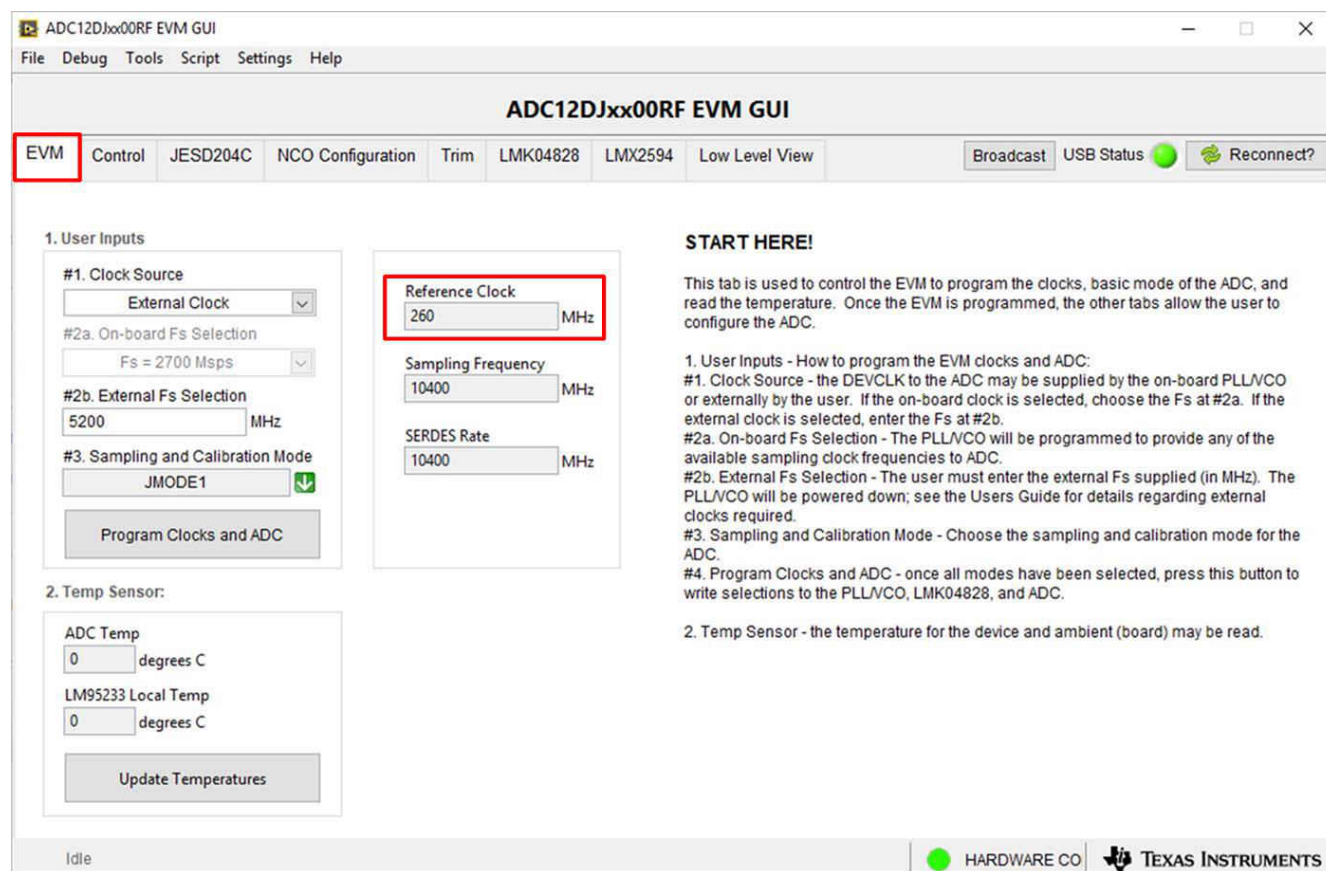
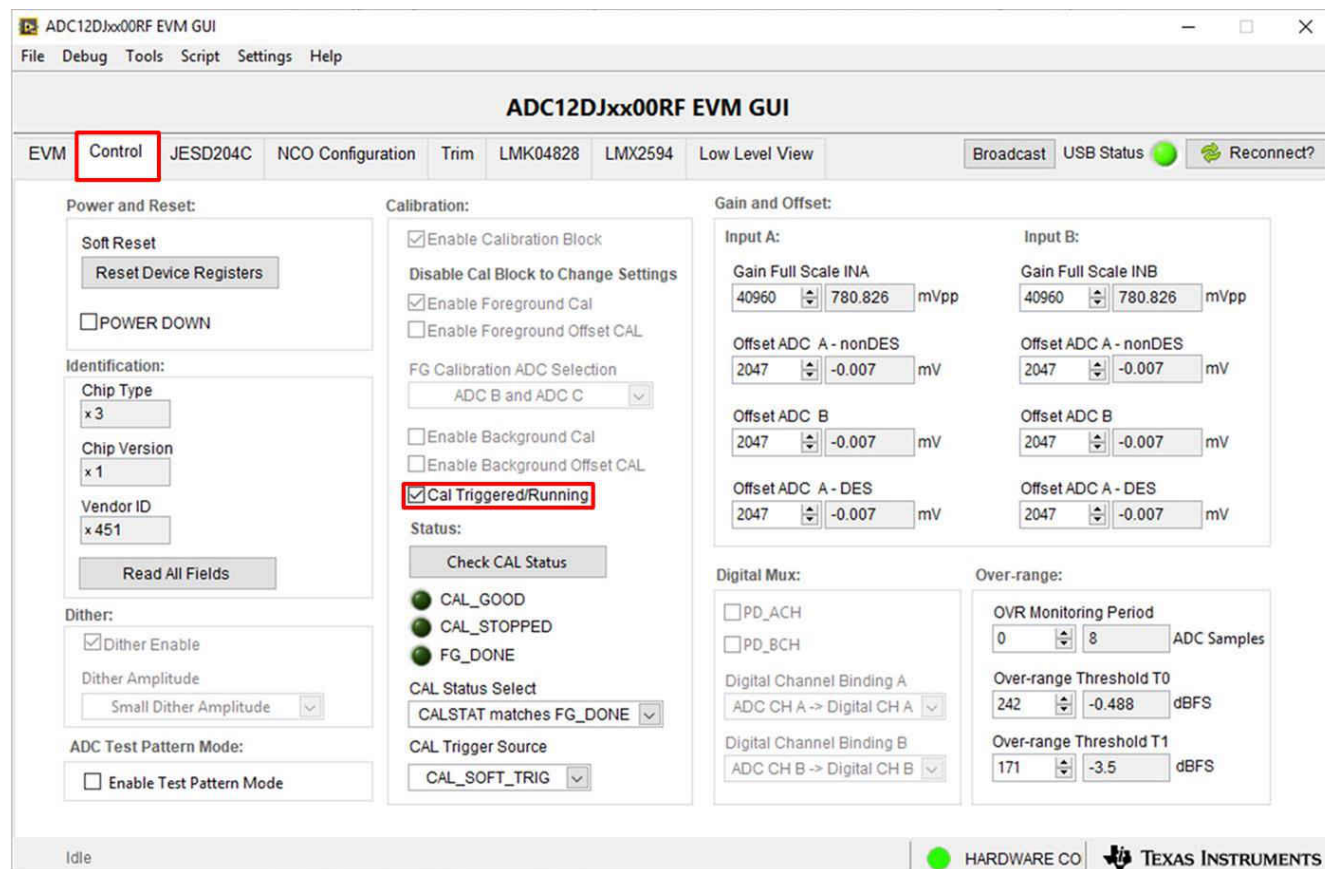

Figure 3-2. Configuration GUI EVM Tab
Figure 3-3. Configuration GUI ADC Control
- a. The Reference clock frequency can be obtained from the ADC12DJ5200EVM GUI. Once the ADC12DJ5200EVM GUI is configured to the desired JMODE mode and clock rate. The Reference Clock frequency required by the EVM is displayed on first page of the GUI shown with red square in Figure 3-2
Figure 3-2 and Figure 3-3 show the GUI open to the *EVM* tab and *Control* tab respectively. Tabs at the top of the panel organize the configuration into device and EVM features with user-friendly controls and a low-level tab for directly configuring the registers. The EVM has three configurable devices, namely the ADC12DJ5200RF/SE, LMK04828, LMK61E2, and LMX2594. The register map for each device is provided in the device data sheet ([ADC12DJ5200RF/SE 10.4-GSPS Single Channel or 5.2-GSPS Dual Channel, 12-bit, RF, LMK0482xB Ultra Low-Noise JESD204B Cmplnt Clk Jitter Cleaner w/ Dual Loop PLLs](#), and LMX2594 15-GHz Wideband PLLatinum™ RF Synthesizer, respectively).